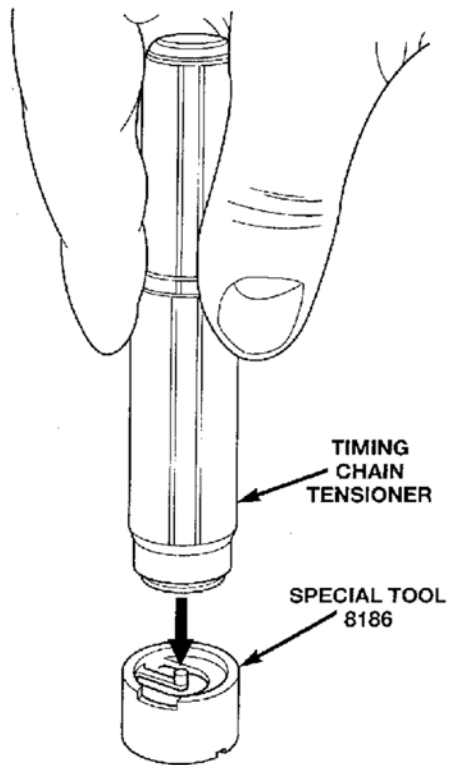

Figure 2: Depressing Oil Out of Plunger
3. Slowly depress tensioner until oil is purged out of the tensioner shown in Figure 2. This can be done by hand pressure.